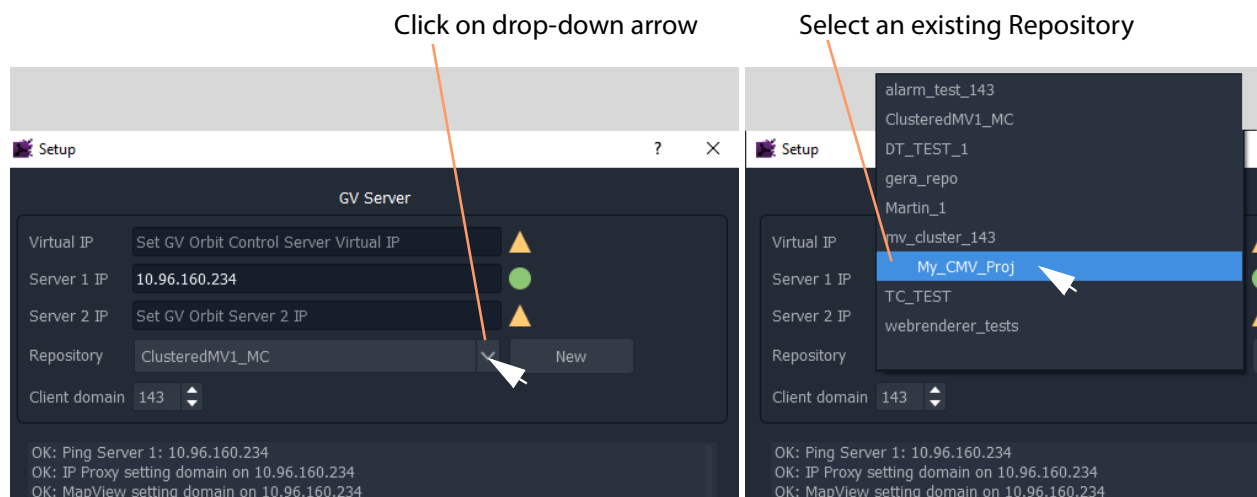

Fig. 14-10: Select Existing Repository
- 1 At the **Repository** drop-down box, select a Repository from the drop-down list. (See Figure 14-10.)